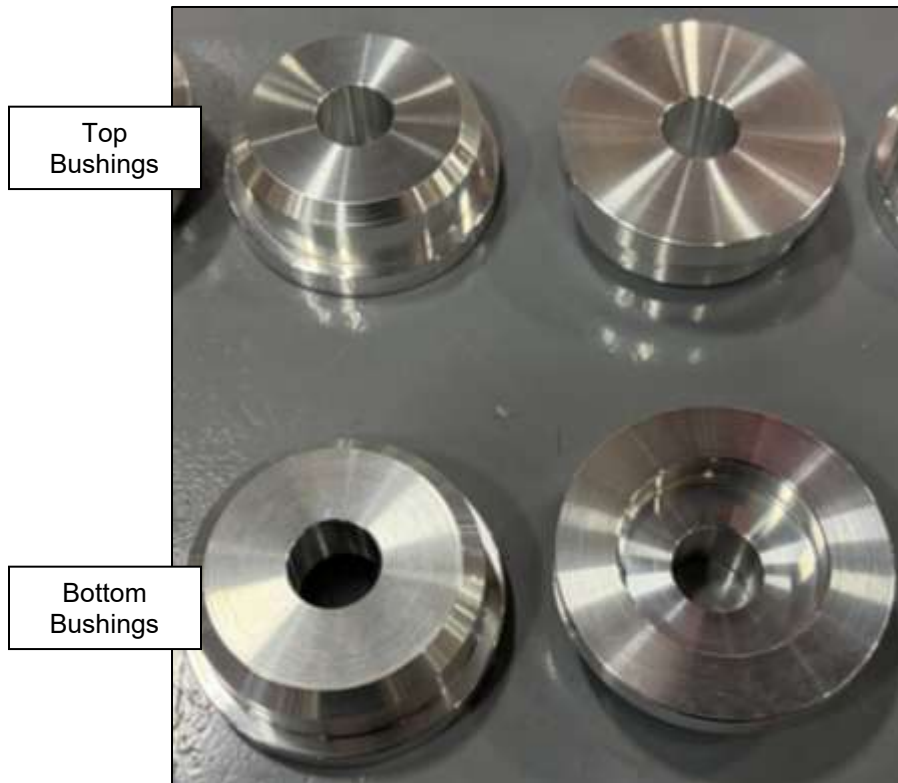

Figure 2
- Use a Hydraulic Press to install the Upper Halves into the top of the Subframe and the Lower Halves into the bottom of the Subframe. Ensure the Bushings are pressed in straight and bottom out on the Subframe. Freezing the Bushings for a few hours prior to installation will make this process easier. *Figure 2.*